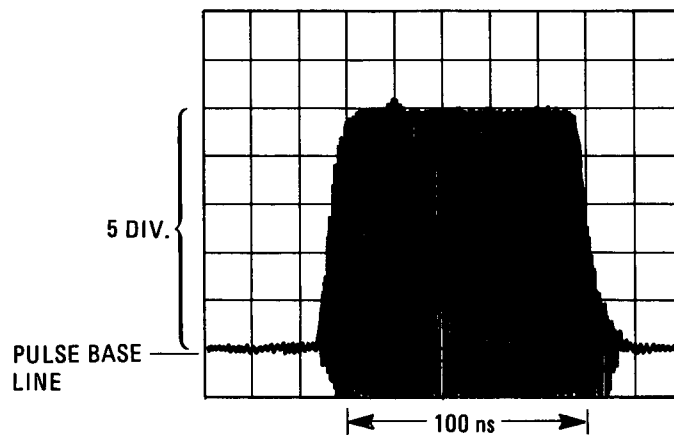

Figure 4-6. Risetime, Overshoot and Ringing Measurement
11. Center the 50 MHz waveform on the oscilloscope display. Adjust the oscilloscope vertical position and sensitivity controls so that the pulse base line is one division from the bottom graticule line, and the waveform is 5 divisions in peak amplitude. See Figure 4-6.